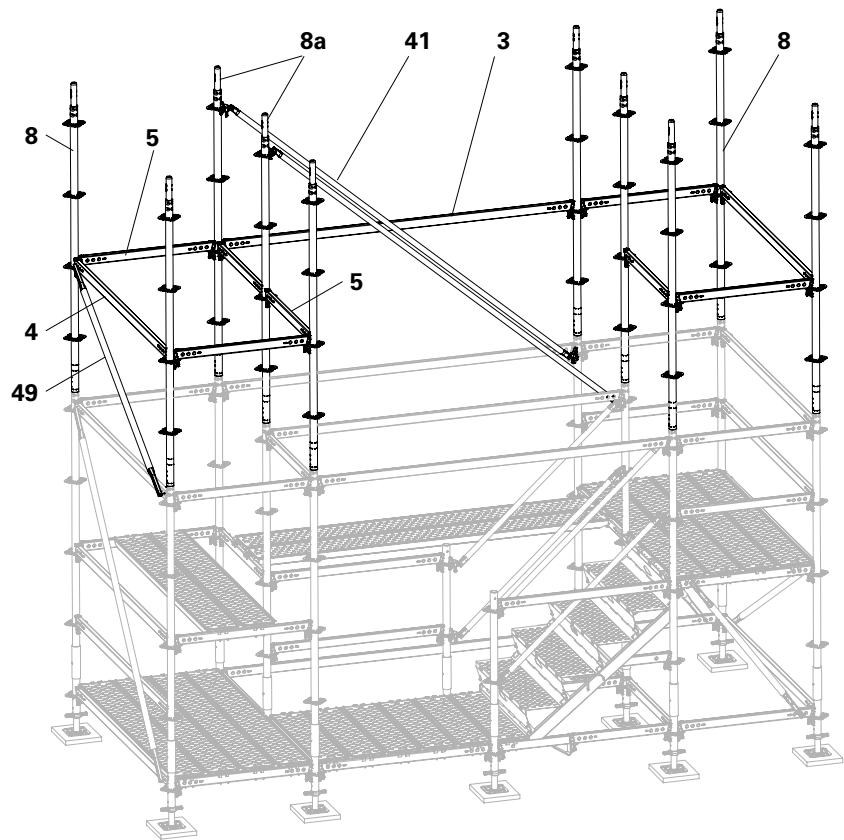

Fig. A8.10
5. Fit the Ledger Brace UBL-2 200/100 (**49**). (Fig. A8.10)